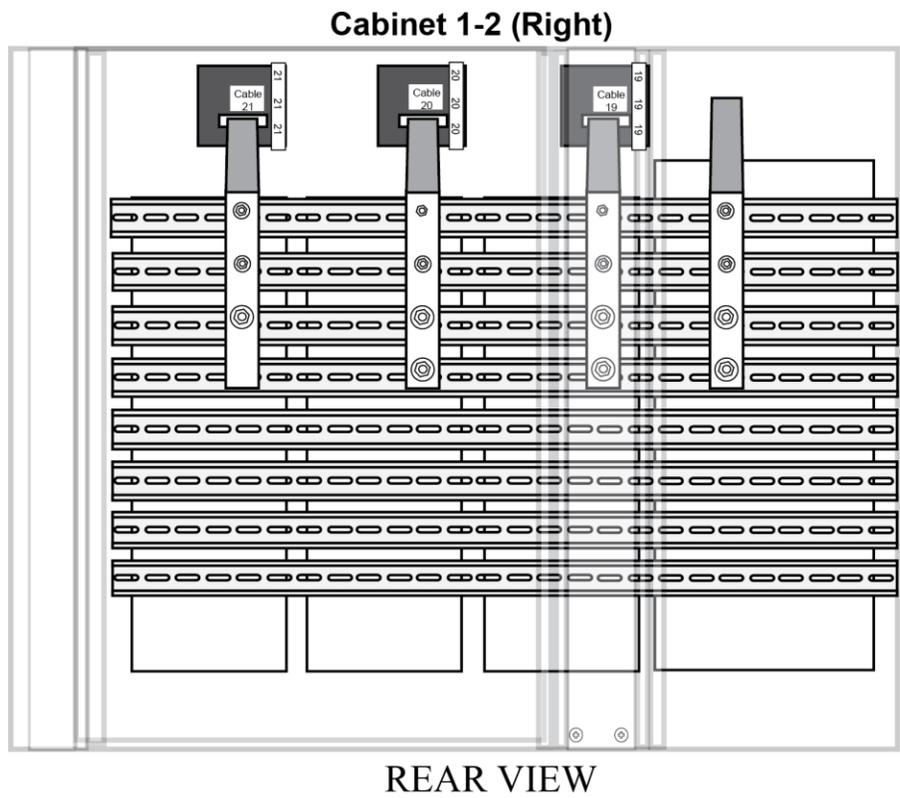

Figure 8—Output Current Sensors
- 12** Attach the output current sensor wires (19–21) in the rear-middle-left of Cabinet 1-2 to the output current sensors (jacks 19–21) (See Figure 8).